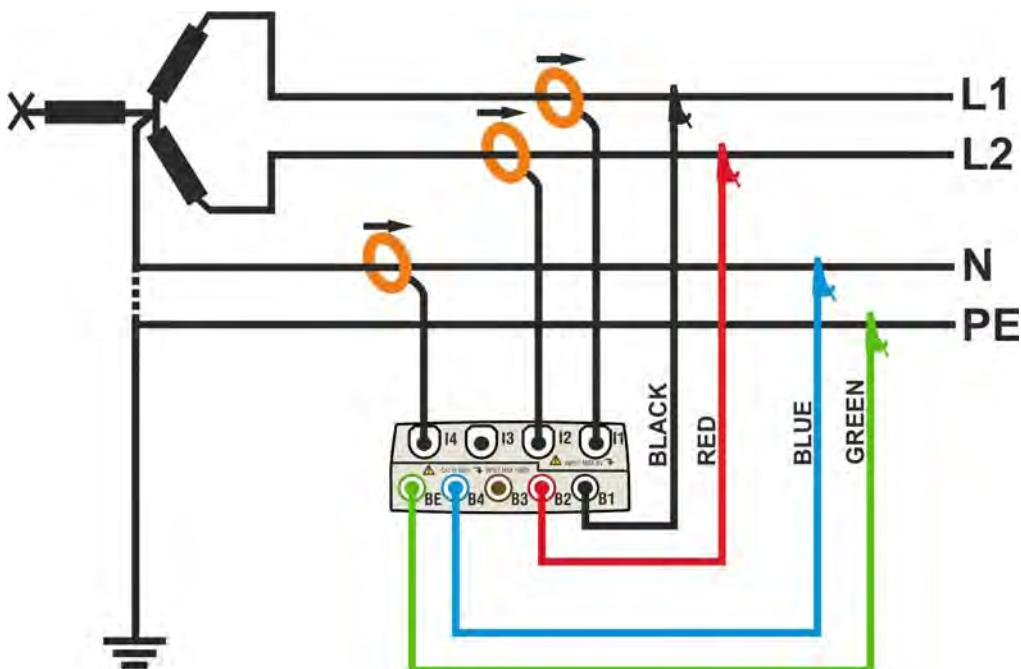

Fig. 128: Meter connection in a two phase 3-wire 3P OY system – ENG type
2. Connect voltage test leads on Phases L1, L2, N and PE cables considering the colours as shown in Fig. 128
3. Connect the transducer current clamps on Phase L1, L2, N cables as shown in Fig. 128 respecting the clamp's arrow direction indicating the current standard sequence from generator to load. **On Real Time Values' section screens (selecting a 3 wire system preliminarily) always verify the positive value of Active Power and the power factor relative to load which should be normally inductive** before starting a recording. Reverse the clamp by 180 degrees on cables in case of negative readings.